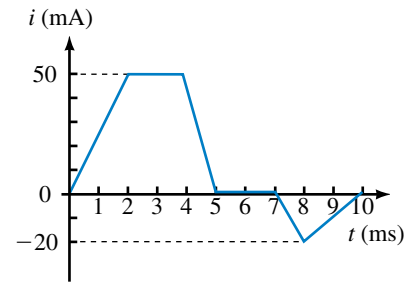

FIGURE 13-32
13. Figure 13-32 shows the current in a coil. If the voltage from 0 to 2 ms is 100 volts, what is L ?